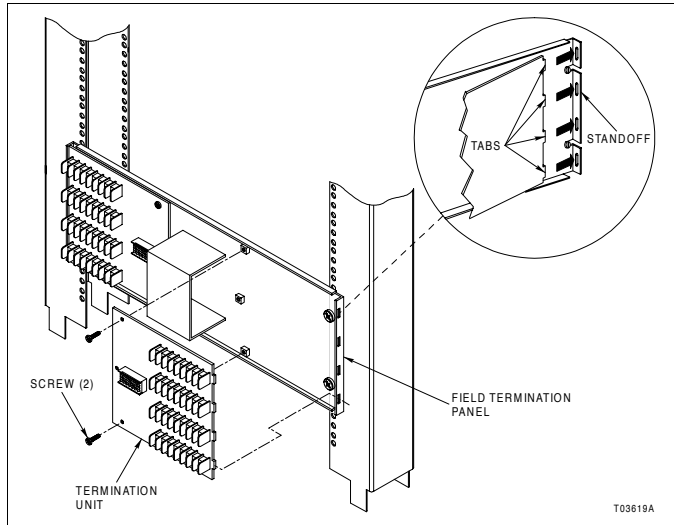

Figure 2-2. Termination Unit Installation
2. Insert the tabs of the circuit board into the proper slots of the termination panel standoff as shown in Figure 2-2 and slide the circuit board into position.
3. Secure the termination unit circuit board to the field termination panel with two No. 10 thread-forming screws (Fig. 2-2).